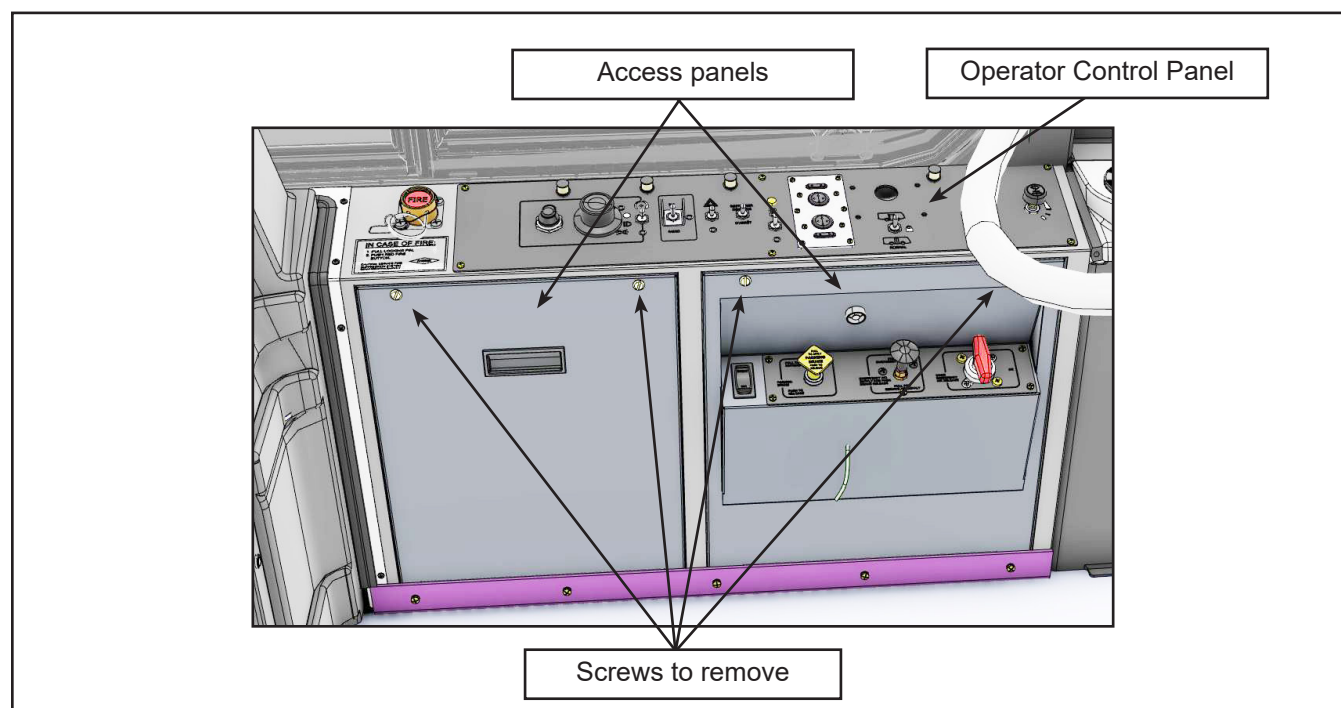

Figure 1 - Operator Lateral Console
- 1.5. Locate the operator control panel on top of the operator lateral console. Remove the access panels by removing the two screws on the two panels to release them (Figure 1).